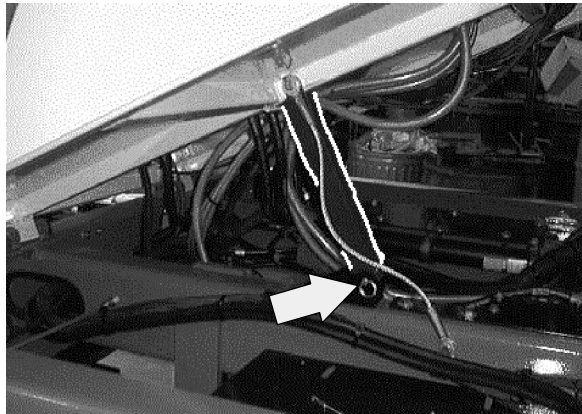

FIG. 2 - Cab Support Bar Location
6. Pull the pin from the cab support bar, let the cab support bar drop down, install the pin into the lower hole on the cab support bar. (Refer to FIG. 2)